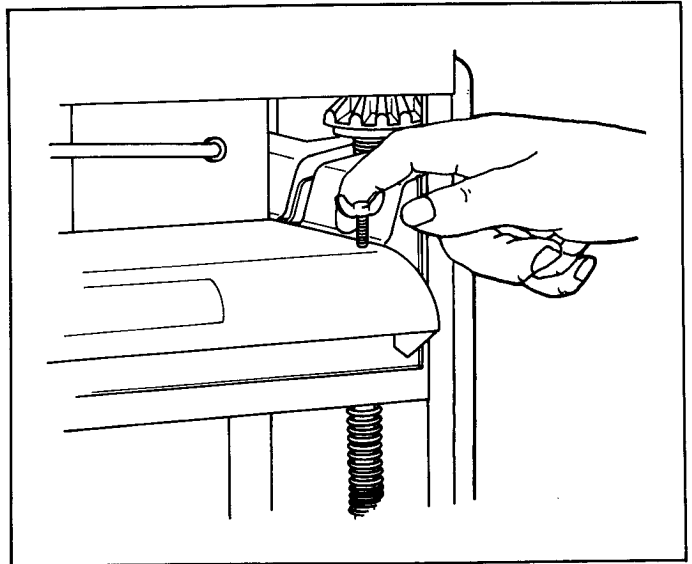

Figure 3
5. Attach the knife guard to the roller case above the rear feed roller (Figure 3). Use the two wing bolts provided and tighten them securely by hand.